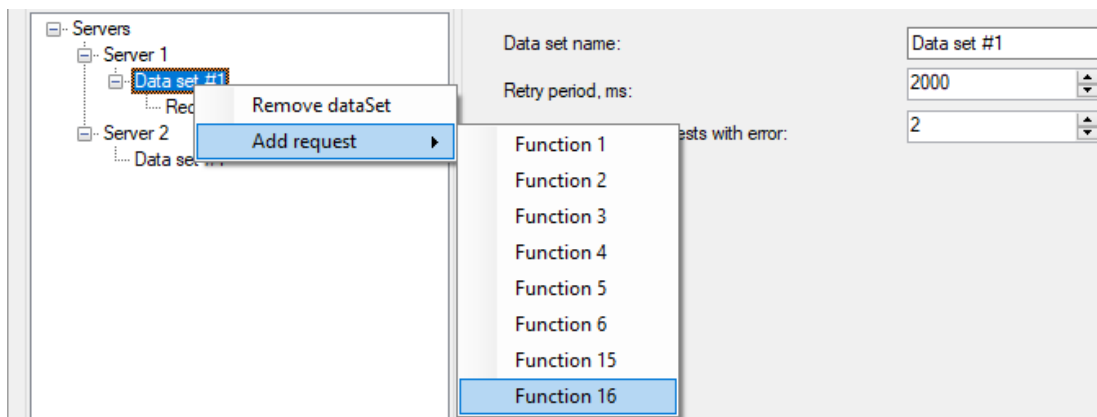

Figure 237 – Requests
d) Requests are Modbus protocol functions that are performed when interrogating devices. Requests are added and deleted through the context menu of the tree (figure 237).